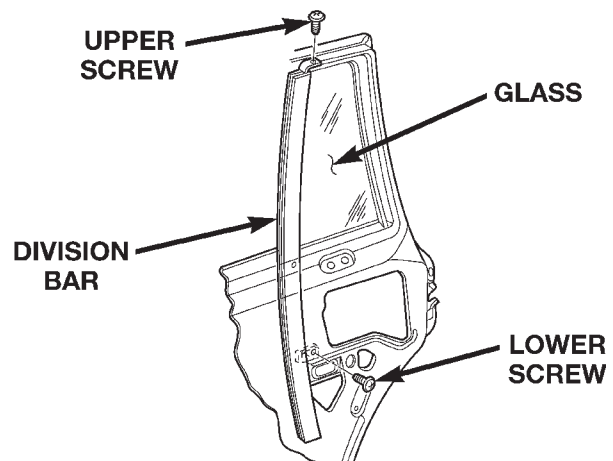

Fig. 7 Division Bar/Stationary Glass
- (1) Lower the window glass.
- (2) Remove the inner and outer beltline weatherstrip.
- (3) Remove the trim panel and waterdam from door inner panel.
- (4) Remove the screws attaching the division bar/glass to the door (Fig. 7).
- (5) Tilt the division bar/glass forward and remove it from the door.